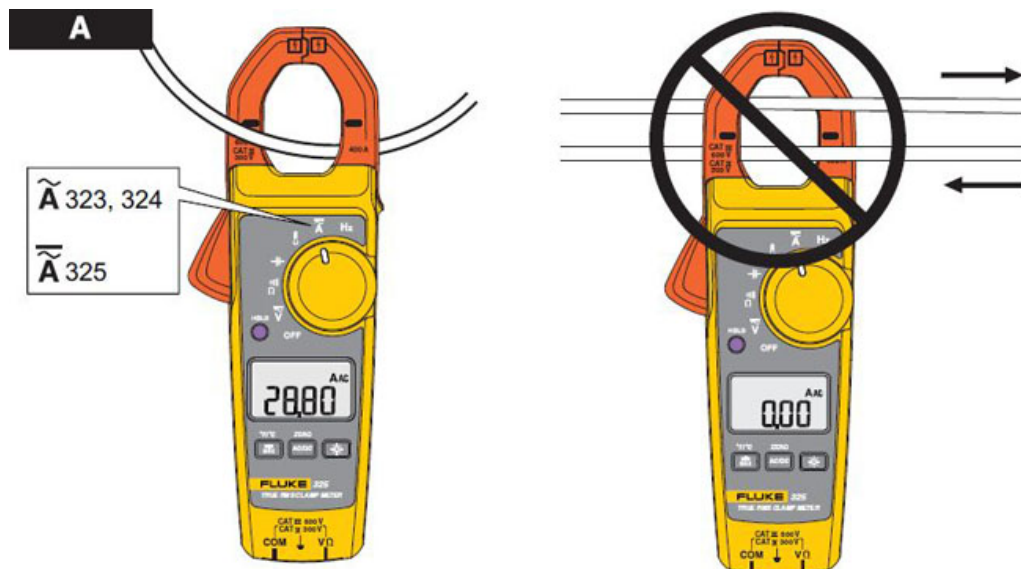

Figure 2-20. Using Clamp on Ammeter.
- Before each use, examine the product. Look for cracks or missing pieces of the clamp housing. Also, look for loose or weakened components. Carefully examine the insulation around the jaws. See figure 2-20, item 2.